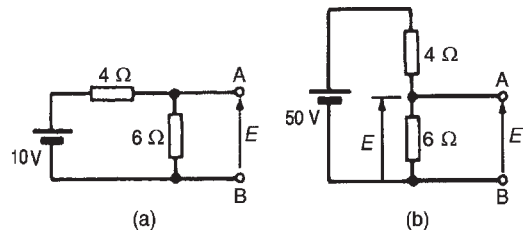

Figure 15.30
- (ii) The open-circuit voltage, E , across terminals AB in Fig. 15.30(a) is the same as the voltage
across the 6Ω resistor. The circuit may be redrawn as shown in Fig. 15.30(b)